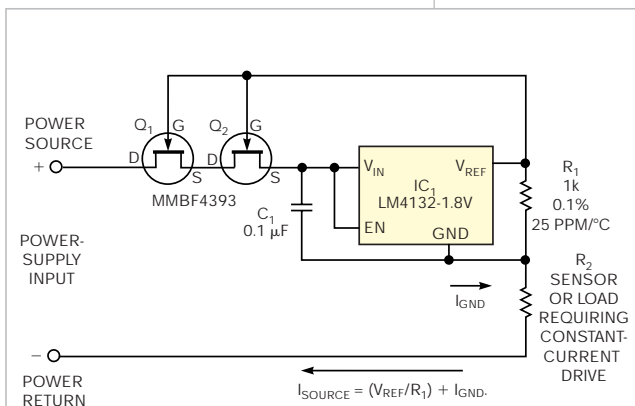

Figure 1 A pair of cascode-connected JFETs reduces the effects of power-supply-voltage fluctuations on a current source's accuracy.
Many process-control sensors, such as thermistors and strain-gauge bridges, require accurate bias currents. By adding a single current-setting resistor,  $R_1$ , you can configure voltage-reference circuit IC1 to produce a constant and accurate current source (Figure 1). However, the source's errors depend on the accuracy of both  $R_1$  and IC1 and affect measurement accuracy and resolution. Although you can specify high-precision resistors whose accuracy exceeds that of most commonly available voltage-reference ICs, the voltage reference's error dominates this current source's accuracy. Although the manufacturer minimizes the voltage reference's temperature sensitivity and output-voltage error, sensitivity to power-supply variations can affect its accuracy, especial-
Figure 1 Use a pair of a PSOC microprocessor's internal blocks and a few external components to build a voltage-boost converter. Use a Schottky diode rated for a peak-inverse voltage of 100V for  $D_1$ . The PSOC's remaining pins are available for application support.
The combination of an external circuit and a low-voltage microcontroller occasionally requires a significantly higher power-supply voltage. You can use either an external boost converter to increase the logic supply or a buck converter to decrease an even higher voltage. However, you can alternatively use the microcontroller to create a higher voltage. For example, some of Cypress Semiconductor's (www.cypress.com) PSOC (programmable-system-on-chip) microcontrollers include a configurable comparator block that, with a PWM block, can form the heart of a simple inductor-based boost converter (Figure 1). A few external components implement a 40V power supply (Figure 2). When the feedback voltage you apply to Pin 3 (P0.3) exceeds the comparator's software-defined threshold voltage, the comparator shuts off the PWM stage. When the voltage drops below the threshold, the comparator re-enables the PWM block and thus regulates the output voltage. The voltage regulator uses only hardware blocks and
Linear voltage regulators offer a simple method of producing a constant current by connecting a fixed resistor between the regulator's output and ground nodes. The regulator's constant output voltage produces a constant current through the resistor. You can use the basic circuit as either a high-side or a low-side current source. The high-side current source uses a positive-output linear voltage regulator, IC1, a Maxim MAX1818, to provide a constant current of 25 mA to the load resistance (**Figure 1**). The design imposes two conditions: First, the voltage between IC1's VCC and ground terminals must not exceed 5.5V. Second, the voltage between IC1's input and ground terminals must meet or exceed 2.5V, the minimum voltage for proper operation. To satisfy these conditions, choose an output-resistance value that allows 2.5 to 5.5V between input and
The low-side current-source circuit draws a constant current of 2.5V divided by the output resistance through the load resistance (**Figure 2**). In this example, IC1, a MAX1735 linear negative-voltage regulator, provides a fixed output voltage of –2.5V. As in **Figure 1**, ensuring a voltage of 2.5 to 6.5V be-
**Figure 1** This high-side constant-current source delivers load current of 2.5V divided by the output resistance, provided that you choose the output resistance to ensure that the voltage between the regulator's input and ground terminals is at least 2.5V.
**Figure 2** As in Figure 1, this low-side constant-current source draws a load current of 2.5V divided by the output resistance, provided that you select the output resistance to make the voltage difference between IC1's input and ground terminals at least 2.5V.
ance. Quiescent currents for the devices in **figures 1** and **2** typically average 130 μA and vary less than 40 μA for a regulator input-voltage range of 2.5 to 5V.EDN